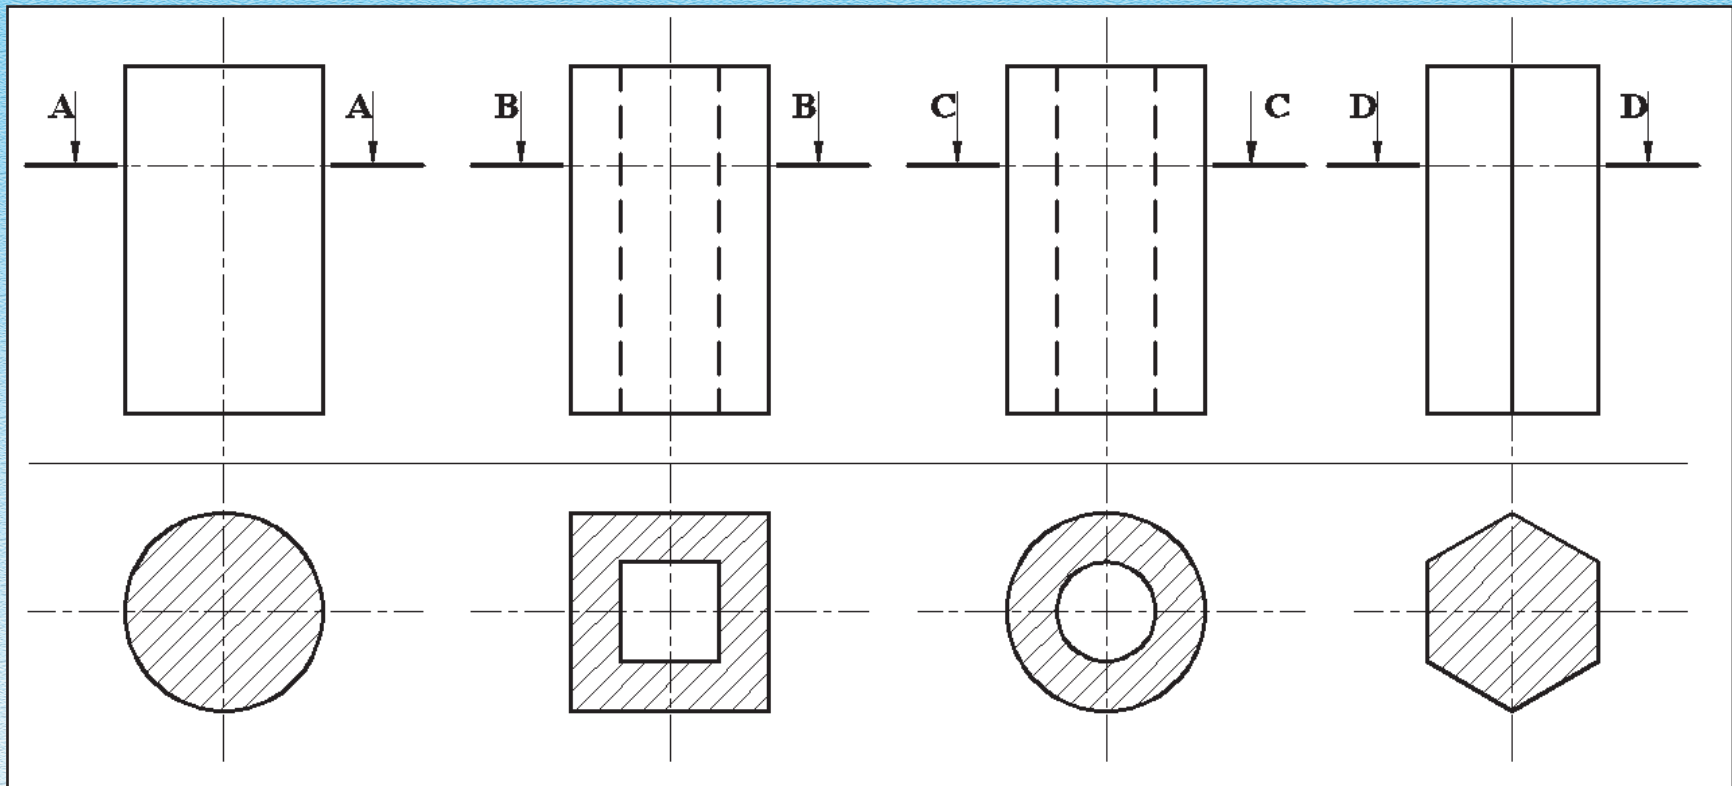

Fig. 5.3 Cross-section of Simple Solids
- It may also be used to show a small cross section (perpendicular to axis) of a machine part as shown in Fig. 5.3